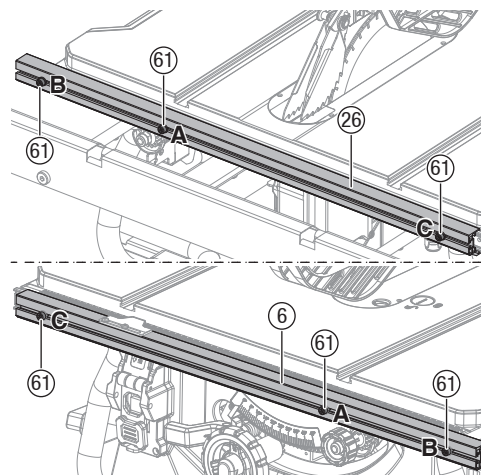

Fig. 8b
- Hold and push knobs (52) forward to the front of the blade guard. Place the pins (53, 54) on the blade guard (23) into the slot B (55) and slot C (56) indicated on the riving knife (2). (Fig. 8b)
- Push down the fence rails lock lever (34) toward the rear of the saw to unlock it.
- Open the rip fence lock levers (5) located on two ends of the rip fence (4), then remove the rip fence (4) from the front and rear fence rails (6, 26).
**CAUTION:** There are three position screws (61) (position A, B, C) on the each front and rear fence rails (6, 26) to attach rip fence. Position screws (61) (position A and B) use for rip fence on the right of saw blade. Position screws (61) (position C) use for rip fence on the left of saw blade. (Fig. 8b)